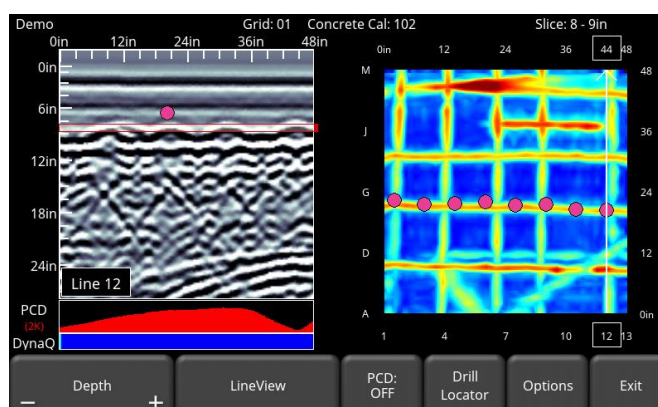

Figure 8-8: Interps displayed on depth slice
- **Interps** – any Interps that were inserted during grid collection will appear on the depth slices. Press this button to toggle between displaying Interps (**ON**) or not (**OFF**). See Figure 8-8.